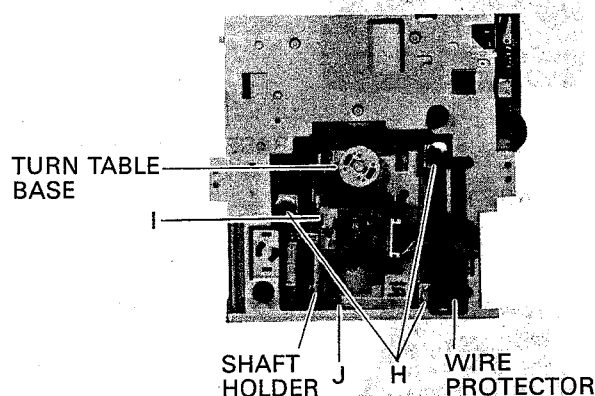

Fig. 3
(4) Removing the TURN TABLE BASE (Fig.3)
(5) Exchanging the PICKUP (Fig.3,4)